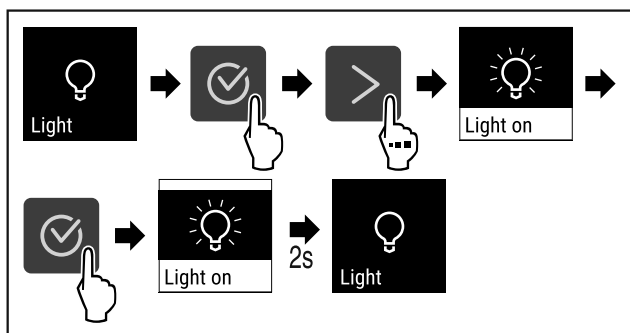

Fig. 86
- ▶ Carry out steps (see Fig. 86).